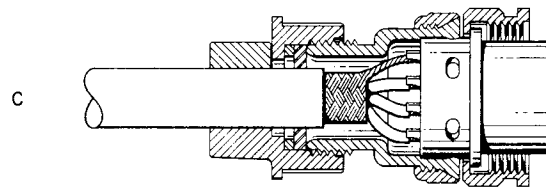

Figure 3-8. Installation of Connector P403 on Cable MCOS-3 and Shielded Cable for Audio Output and AGC
(3) AUDIO OUTPUT CONNECTION.—The audio output cable is attached to plug P403 which mates with connector J403. See Figure 3-8 for the method of connecting the cable to plug P403. The audio output is designed for operation with from one to five 600-ohm loads connected in parallel. Various types of audio equipment such as headphones, speaker, facsimile, etc. may be connected to the output. The audio line is connected to pins A and D of connector J403.
(4) EXTERNAL AGC.—AGC voltage generated in the converter may be applied to the associated receiver provided that the latter has suitable interconnecting facilities. This connection is necessary for the reception of suppressed-carrier transmissions.